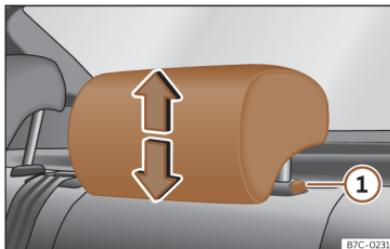

Fig. 98 Rear headrest: adjusting the headrest.
- Grab the sides of the head restraints with both hands and push upwards to the desired position. To lower it, repeat the same action, pressing the button on the side ① >>> **Fig. 98.**